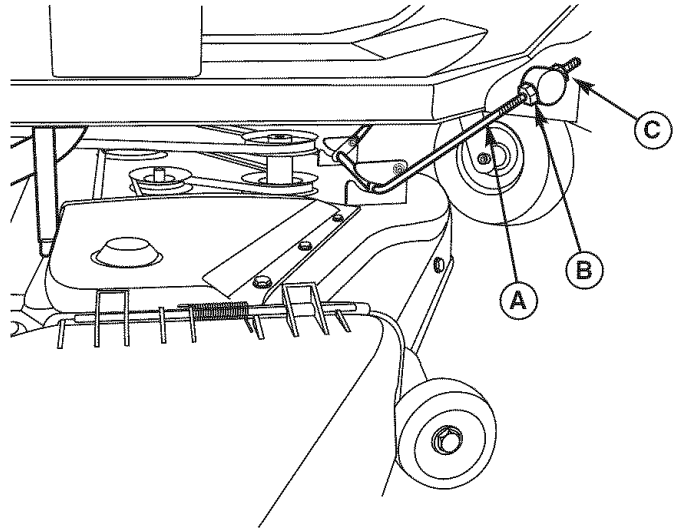

**Figure 38. Orient Blades Front-to-Back**
1. Turn the blades front-to-back as shown in Figure 38. Measure the distance from the ground to front tip of center blade, and from ground to rear tips of left hand and right hand blades (Figures 38). Front tips should be 1/8"-1/4" (3-6 mm) higher than rear tips. If not, proceed to step 2.